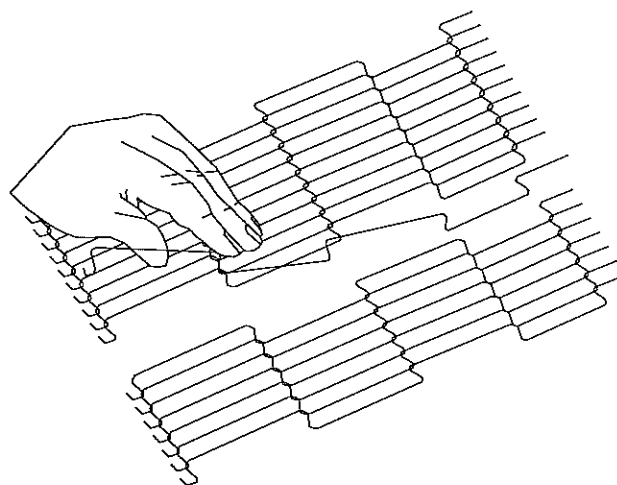

**Figure 4-27.**
3. Remove the outside master links on the right and left sides of the conveyor belt as shown in Figure 4-27.